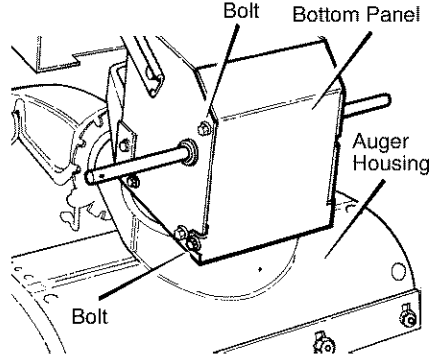

Figure 48
1. Remove the gas from the gas tank. Stand the snow thrower up on the front end of the **auger housing** (see Figure 48).
3. Loosen the **bolts** on each side of the **bottom panel** (see Figure 48).
6. Install the **bottom panel** (see Figure 48).
1. Remove the gas from the gas tank. Stand the snow thrower up on the front end of the **auger housing (4)**. (see Figure 48).